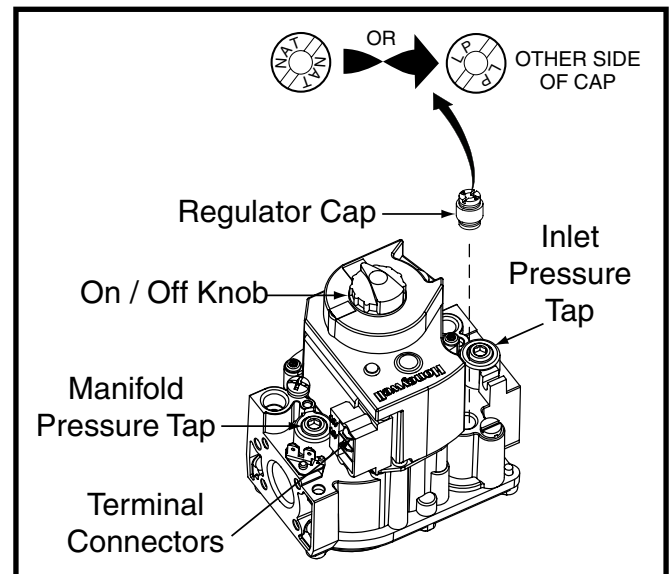

Figure 13. Gas Valve
Converting single stage valves to LP/Propane requires the replacement of the burner orifices and flipping the regulator cap to the side marked LP. The end facing up should now read LP. See Figure 13.
2. Using a 3/16" Allen wrench, remove the plug from the inlet pressure tap (INLET side of gas valve). See Figure 13 (page 18).
4. Turn the gas valve ON/OFF knob to the ON position. See Figure 13 (page 18).
3. Using a 3/16" Allen wrench, remove the manifold pressure tap plug located on the outlet side of the gas valve. See Figure 13 (page 18).